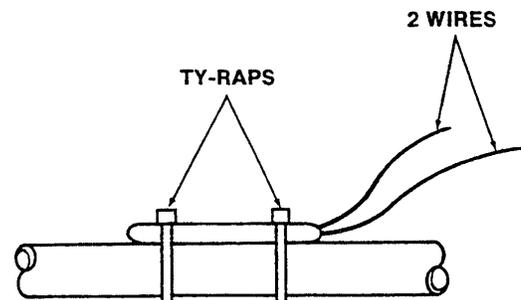

Figure 59. Ty-raps Removal
- Carefully remove the foam and thermal mastic until the sensor is visible, then cut the small ty-raps that hold the sensor, and remove (Figure 59).